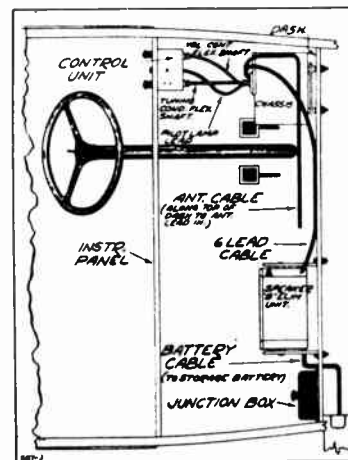
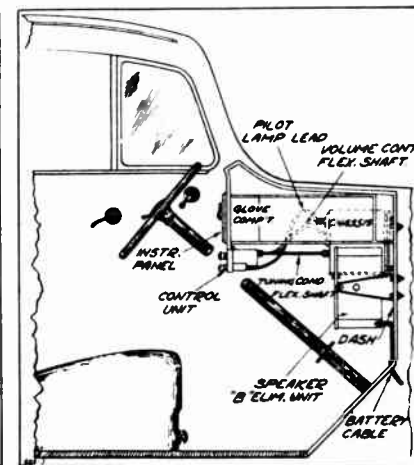
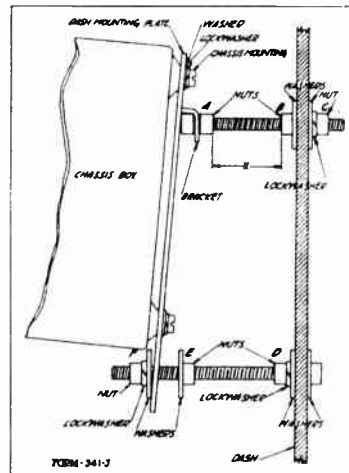

Fig. 1—General Installation—Top View
Fig. 2—General Installation—Side View
Fig. 4—Details of Chassis Mounting on Dash
The chassis is mounted in back of the dash at the left side, as shown in Fig. 1. It should be mounted in such a way that the tuning condenser flexible drive shaft to the control unit will be in substantially a straight line as shown in Figs. 1 and 2. The chassis is mounted with the anchor bushings in which the flexible shafts go, facing the control unit, and with the cover at the bottom. It is secured to the dash by means of the dash mounting plate, see Fig. 4. In some of the earlier models it will be necessary to move the cut-out box to a higher location in order to mount the chassis.
First drill the three mounting holes required for the dash mounting plate. The location and size of these holes is shown in Fig. 3. A template for drilling these holes is supplied with the set. Three 4" square head mounting bolts are supplied. Take two of these, which will be used for the upper part of the mounting plate and screw on nut "A" (see Fig. 4). The nut should be just far enough away from the head of the bolt to permit the bracket of the mounting plate to slip down as shown in the illustration.
Then put on nut "B" and the washer, after which the two bolts can be put through the dash, with the shanks extending into the engine compartment, as shown in Fig. 4. A washer, lockwasher, and nut are then put on these bolts from the front of the dash to hold them in place.
The four mounting screws pass through the four slots in the mounting plate (Fig. 3). After they are in place and tight, the dash mounting plate with chassis attached is slipped over the three mounting bolts. The two upper brackets on the plate slip down in back of nut "A" as shown in Fig. 4 and the
The control unit is mounted to the instrument panel as shown in Figs. 1 and 2. In the 1932 and 1933 models there are two holes on the flange at the bottom of the instrument panel on the left side, which line up with the two holes on the mounting lugs of the control unit. In the earlier models, it will be necessary to drill these holes. Two 1/4" holes with centers 4 7/8" apart are required. The best location
for these holes is at a point where the tuning condenser flexible drive shaft to the chassis will be in substantially a straight line (see Figs. 1 and 2).
The speaker—"B" eliminator is mounted on the back of the dash by means of two brackets, as shown in Fig. 5. The best location is at the right side of the dash under the glove compartment as shown in Figs. 1 and 2. It should be mounted with the brackets at the side as shown in (A) Fig. 5, and with the inner bracket mounting holes as indicated in (B) Fig. 5. The box is mounted with the tone control knob at the upper left, as shown in Fig. 1. The
Two flexible shafts are supplied with the Cadillac and La Salle auto receiver, one 9 " and one 12 " long. The 9 " shaft is the tuning condenser flexible shaft and is put on in substantially a straight line, as shown in Figs. 1 and 2. The 12 " shaft is the volume control shaft. This shaft bends upward from the control unit, as shown in Fig. 2.
As shown in Figs. 1 and 2, the battery cable is brought down the dash, through a hole in the dash and thence over to the battery. It passes through the raised portion of the battery compartment cover.